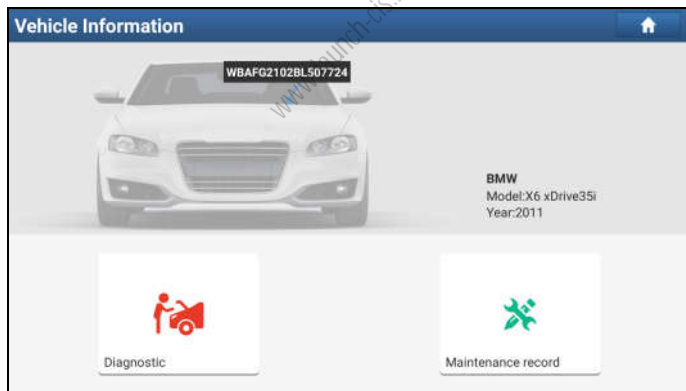

Fig. 5-5
A. If the VIN can be found from the remote server database, a screen similar to Fig. 5-5 displays:
- If the VIN scanned is incorrect, tap the result field to modify it and then tap "OK". If the VIN exists on the remote server, the system will enter the vehicle information screen. See Fig. 5-5.